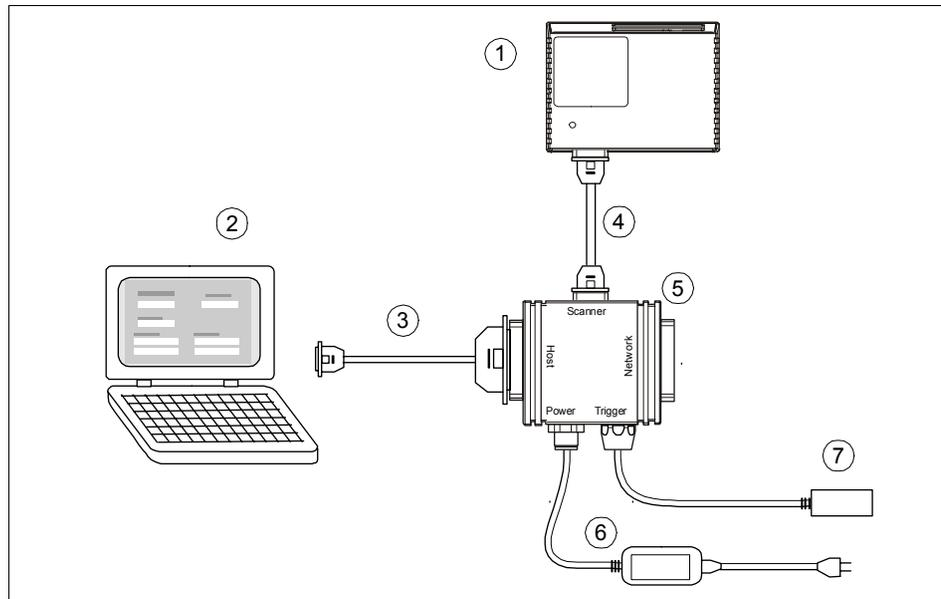

Figure 1-1 Hardware Configuration
(Refer to figure 1-1.)
5. Move your bar code label towards the scanner and away from the scanner until the decode rates drop off in each direction as shown in figure 1-1.